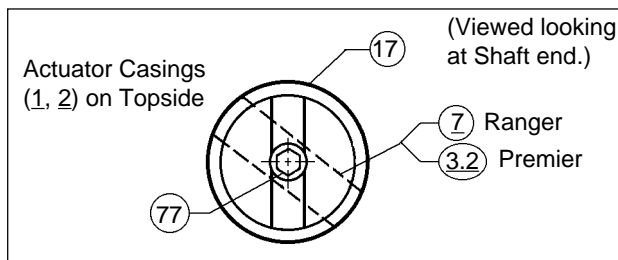

Figure 2.5: Spacer Orientation
- d. Position the new positioner spacer (17) over the valve stem (7 - Ranger, 3.2 - Premier) end, oriented as shown below in Figure 2.5.
- e. Put Locktite #242 thread locking sealant, or equal, onto the set screw (77). Engage the set screw (77) into the tapped end of the spacer (17), until the set screw (77) is projecting out of the spacer (17) 3/16" – 1/4" (5 – 6 mm).
- f. Position positioner baseplate (26) to positioner mounting bracket (76) properly oriented such that positioner baseplate (26) bottom edge is parallel to the bottom edge actuator arm housing (4). Opposite side boltholes of bracket (76) must also align with boltholes of actuator arm housing (4) and cover plate (13). Use four cap screws (79) to secure the baseplate (26) to the bracket (76). Place connected parts (26, 76, 79) aside.
- g. Position bearing flanges (19) with retainer ball bearing (18) over the spacer (17). Align the bearing flange (19) bolt holes with the arm housing (4) bolt holes.
- h. Position cover plate (13) over the bearing flanges (19) aligning the cover plate (13) bolt holes with those of the bearing flanges (19). Hold cover plate (13) on outer edge with fingers. **NOTE:** *Ensure that the three tapped holes in the cover plate (13) used to mount the bracket (76) are near the 1 o'clock, 5 o'clock and 9 o'clock positions.* Engage three cap screws (31) to secure spacer (17), bearing flanges (19) and cover plate (13) securely to arm housing (4). **NOTE:** *It may be necessary to rotate the actuator manual handwheel operator (58) downwards, or alternately supply a small level of air pressure (5-7 psig, .34 - .50 Barg) to assist in aligning bolt holes for cap screws (31). Do not tighten one cap screw (31) until all three cap screws are partially thread-engaged.*
- i. Position connected parts (26, 76, 79) of Step 4f., above, with the bracket (76) up and pressing against the cover plate (13), engaging the tongue-and-groove joint between the positioner baseplate rotary shaft (32) and the spacer (17) with its protruding set screw (77). Engage new cap screws (78) to secure the bracket (76) to the cover plate (13).
- a. Turn actuator handwheel (58) CW to remove stem windup torque. The linkage from the actuator stem (9) will become slack. May require 1-3 revolutions. This will ease removal of cover plate (13).
- b. Remove four cap screws (34), two cap screws (31), dial lens (14), travel indicator dial (15), cap screw (32), travel indicator (16), lock washer (55) and pin (51).
- c. Remove cover plate (13) carefully, prying out with a screwdriver or similar instrument. Shaft-end bearing (18) may slide out when cover plate (13) is removed; otherwise, remove bearing (18).
- d. Remove indicator spacer (17).
- e. Discard removed dial lens (14), travel indicator dial (15), coverplate (13), two cap screws (31), travel indicator (16), cap screw (32), indicator spacer (17), pin (51) and washer (55). Save only four cap screws (34) for re-use.
- f. Position the spacer (17) over the valve stem (7 Ranger, 3.2 Premier) end, oriented as shown in Figure 2.5.
- g. Put Loctite #242 thread locking sealant, or equal, onto the setscrew (77). Engage the setscrew (77) into the tapped end of the spacer (17), until the setscrew (77) is projecting out of the spacer (17) 3/16"–1/4" (5–6 mm).
- h. Position bearing (18) over the spacer (17) and push fully inwards.
- i. Position cover plate (13) over bearing (18) ensuring that cover plate (13) gets properly centered and shouldered within the arm housing (4). Align the four bolt holes within the arm housing (4). Engage the cap screws (34) to secure the cover plate (13) to the arm housing (4), tightening cap screws (34) evenly. **NOTE: It may be necessary to rotate the actuator manual handwheel operator (58) downwards, or alternately supply a small level of air pressure (5-7 psig), (0.35-0.50 Barg) to assist in properly shouldering the cover plate (13) within the arm housing (4).**
5. Rotate handwheel operator (58) until slack, or release all air pressure from the actuator.
6. Position mounting bracket (76) onto the positioner base plate (26) and secure with